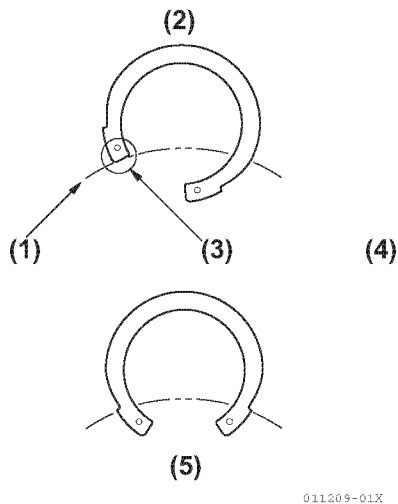

Figure 9-12
- Install the abutment as shown in **Figure 9-12**.